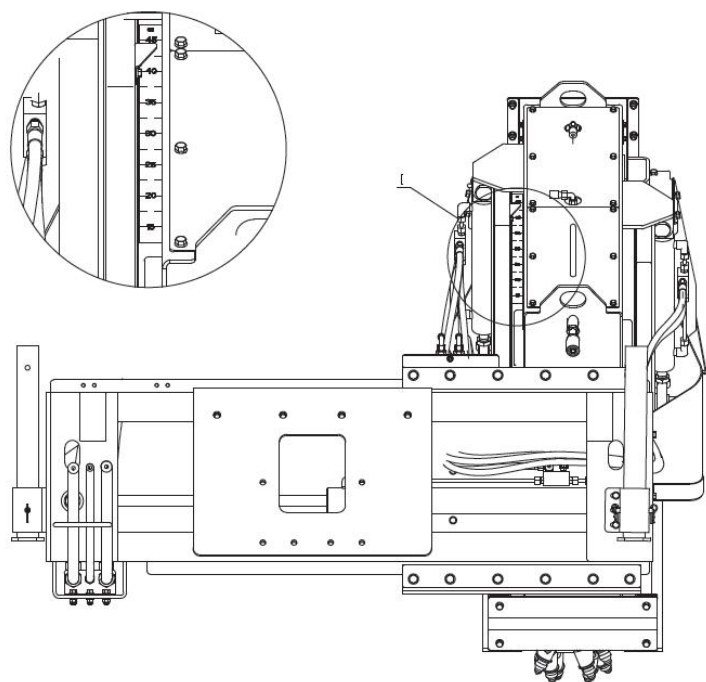

Figure 1 Depth table
- 1) **Before entering the ground, determine the trenching depth according to the depth device marking (such as Figure 1)**